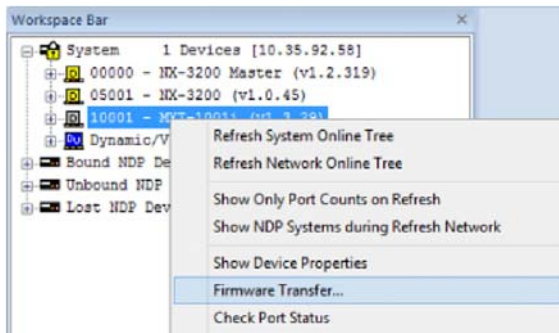

FIG. 158 NetLinX Studio Online context menu (Firmware Transfer selected) This invokes the Send To *NetLinX Device* dialog.
3. Right-Click on the G5 panel, and select **Firmware Transfer** from the context menu (FIG. 158):